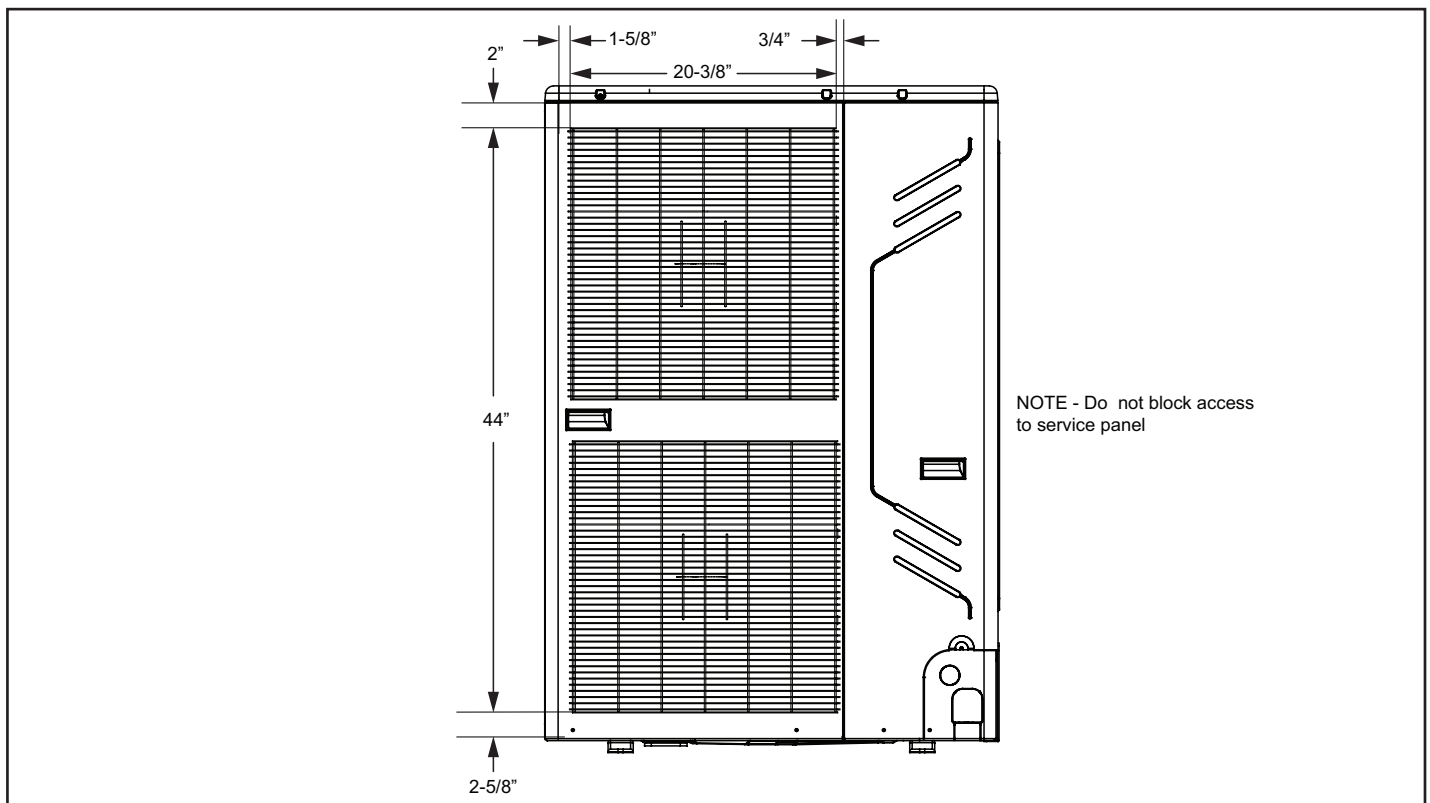

Figure 15. Unit Front Dimensions
- If field-fabricating ductwork to directly discharge air outdoors, use the dimensions shown in Figure 15 as a guide.